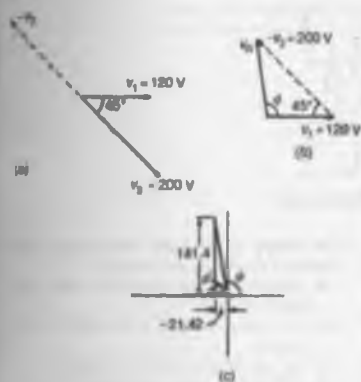

Figure 14.14
- (b) The relative positions of v_1 and v_2 are shown at time $t = 0$ as phasors in Fig. 14.14(a). Since the resultant of $v_1 - v_2$ is required, $-v_2$ is drawn in the opposite direction to $+v_2$ and is shown by the broken line in Fig. 14.14(a). The phasor diagram with the resultant is shown in Fig. 14.14(b) where $-v_2$ is added phasorally to v_1 .
From Fig. 14.14(c), resultant